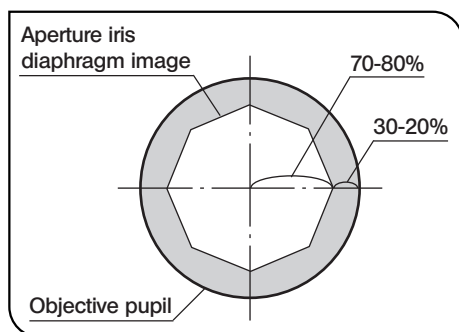
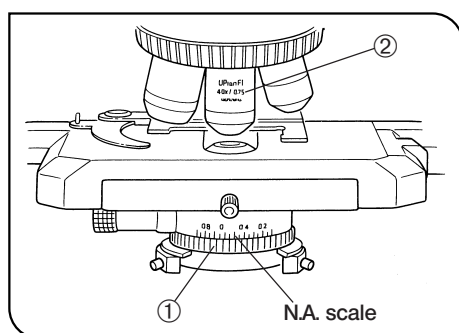

Fig. 34
Fig. 35
Aperture Iris Diaphragm (Figs. 34 & 35)
- Since the contrast of microscope specimens is ordinarily low, setting the condenser aperture iris diaphragm to between 70 and 80% of the N.A. ② of the objective in use is usually recommended. Adjust the ratio by removing the eyepiece and looking into the eyepiece sleeve while adjusting the aperture iris diaphragm ring ① until the image shown in Fig. 34 is seen.
② Using the numerical aperture scale:
You can use the condenser numerical aperture scale by adjusting the aperture iris diaphragm ring ①. (Fig. 35)